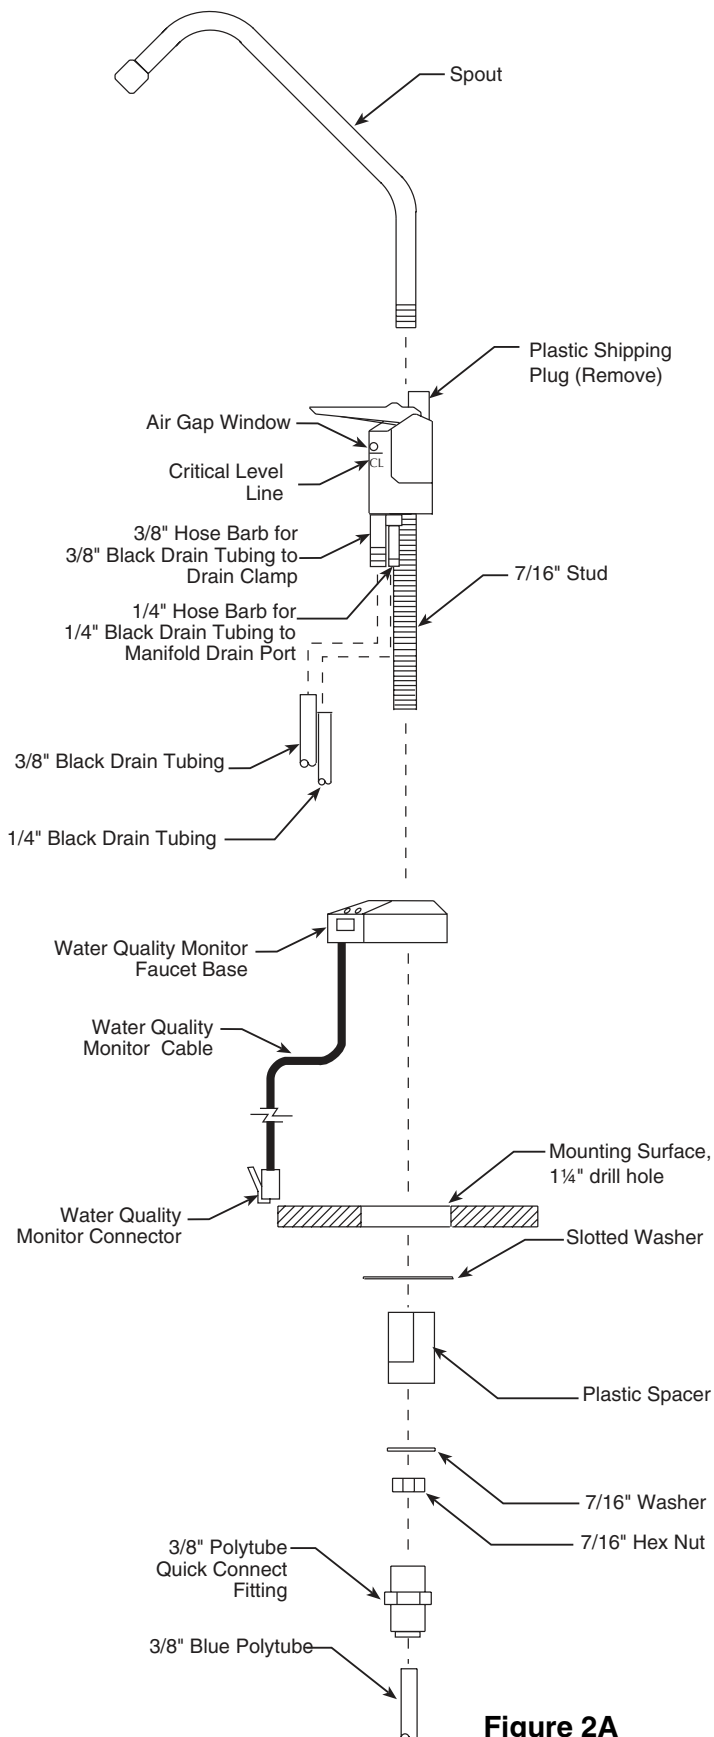

Figure 2A
3. Assemble and attach the Faucet, Water Quality Monitor Faucet Base and tubing (refer to Fig. 2A & 2B, page 9.)
Slide Water Quality Monitor Faucet Base over ¼" Black Drain Tubing, ¾" Black Drain Tubing and 7/16" stud screw and seat with Amber/Green LED's aligned under Air Gap Window on Dispensing Faucet. (See Figure 2A, page 9.)
- Check the Air Gap Window on the Dispensing Faucet to be sure that the drain water is flowing. (Refer to Figure 2A, page 9.) The R.O. System is now making water.